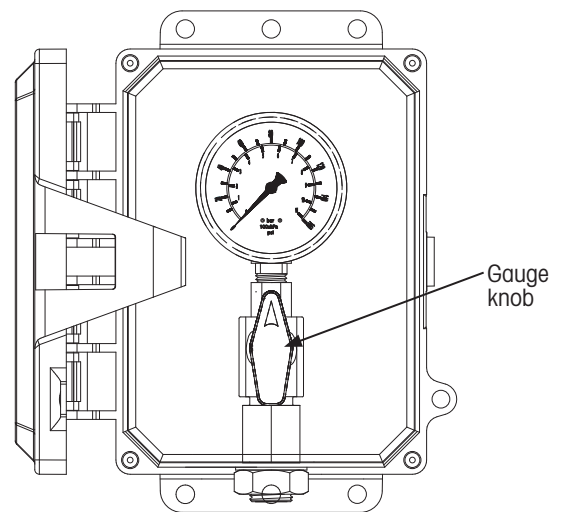

Figure 1: Gauge in ON position
2. **Rotate gauge knob** (located below the gauge as shown in Figure 1) counterclockwise to the **GAUGE ON** position (knob pointing up towards gauge).
2. **Rotate** gauge knob (located below gauge, Figure 1) counterclockwise to the **ON** position (knob pointing up towards gauge).